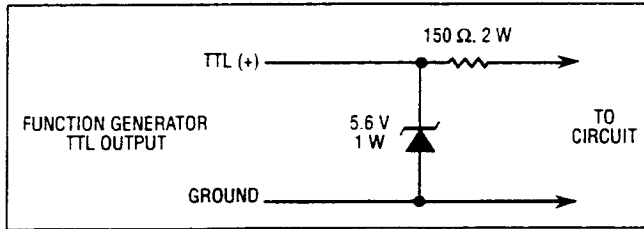

Figure 5. Circuit for Protection of TTL Output.
5. When the function generator is used by students or other inexperienced users, the circuit of Fig. 5 could be added into your **TTL** output probe or test clip set. It will protect the **TTL** output of the generator against external voltages up to ± 20 volts.